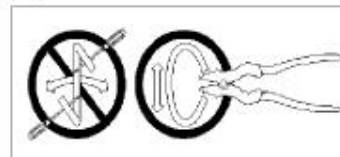

Fig.3
### CONNECTING THE WIRES (Fig.3)
1. At this point, connect the electrical wires as shown in Fig.3 making sure all wire nuts are secured. You may have to wrap the connections with electrical tape. If your outlet has a ground wire (green or bare copper), connect fixture's ground wire to it. Otherwise connect fixture's ground wire directly to the junction box.
3. Raise the lock collar and thread onto ceiling loop protruding through the canopy (B) and the canopy (A).